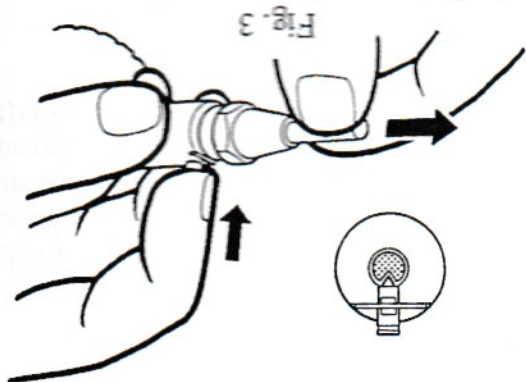

Fig. 3
locating pin (43) by which your dops are held firmly in position. Refer to figure 3. On previous models of the machine when fitting a dop into the handpiece, slide the dop into the collet chuck, adjust the hex headed nose piece to enable the dop to slide neatly in without binding, slowly turn the dop to bring the VEE machined in the dop uppermost, adjust the cone pointed locating screw (43) so that the dop can be slid into the dop arm. Carefully turn the screw in, using an allen (hex) key to enable the dop to be held firmly, do not overtighten using the spanner provided tighten the collet (44) firmly. There is no need, ever, to tighten the locking screw or the collet more than firmly. If the locating screw is overtightened it can cause the dop to be kicked sideways of centre. The collet is used to centre the dop in the arm. The locating pin, as the name implies, is to locate the dop radially in relation to the index wheel. It also allows the stone to be transferred accurately from one dop to another.
When you have completed the preform place the dopped stone in your freezer and in a short while the stone will have popped off the dop. Clean away the excess wax with a hobby knife, clean with metho again. Select a plain end dop stick about 1/4 diameter and clean with metho. Paint shellac metho solution onto both, dop stick and stone table with a touch up brush. Do not touch this area with your fingers. Warm stone on warming oven, and with dop stick held in a wooden handle, also heat dop stick until solution on both stone and dop stick bubbles and begins to dry. With flame on the dop stick stem, hold wax stick on top of the dop until a small amount of wax melts onto the surface required. Immediately push warm stone and dop stick together. Position stone with wetted fingers so that a flat on the girdle is in line with the groove in the dop stick. Mould any excess wax onto stone keeping fingers wet. Wax can be reheated for readjustment of the stone. As soon as it is cool, you are ready to start cutting. Loosen the hex nut on the handpiece and slide the dop into the dop arm. Locate dop with pin as in Fig. 3. Firmly close collet nose piece (hex nut). Now with spanner provided and pressing on locating pin, tighten the nose piece. It only has to be firm, you are not trying to pull down the bolts on a cylinder head on a car. Set your cheater at 'O'. To digress for a moment, Gemmasta now have their right hand and left hand scales on the cheater dial marked R and L as in Figure 10. This is very useful for recording. As you cut your stone it is advisable to keep a record. If perhaps you have to cheat a little